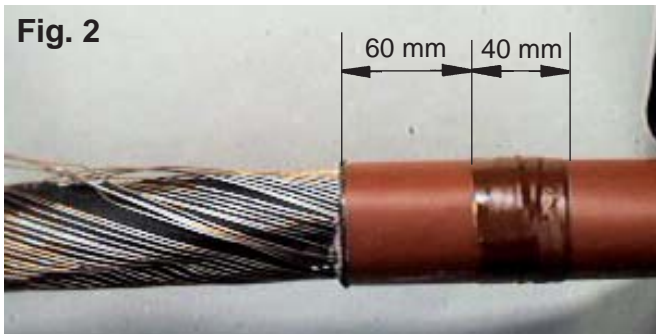

Fig. 2
- 1) Remove cable sheath on length in accordance with the position of the cable breakout, minimum 400 mm for indoor installation. Apply 2 turns of red sealing mastic as indicated in fig. 2.